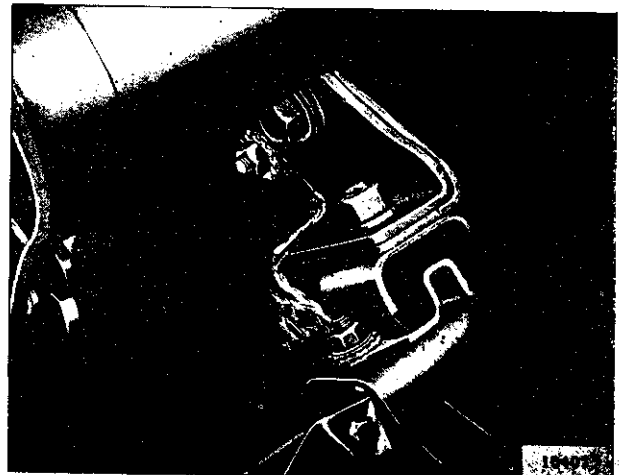

FIG. 10—ENGINE GROUND STRAP
g. Be sure the engine ground strap connection, Fig. 10, is tight at both connections.